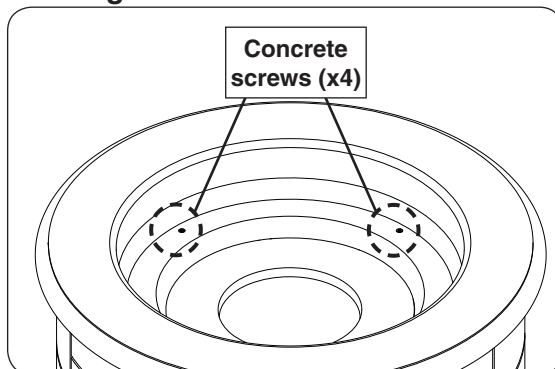

Fig. 24-4 Remove concrete screws
1. Remove the 4 concrete screws from the refractory panel (see Fig. 24-4).